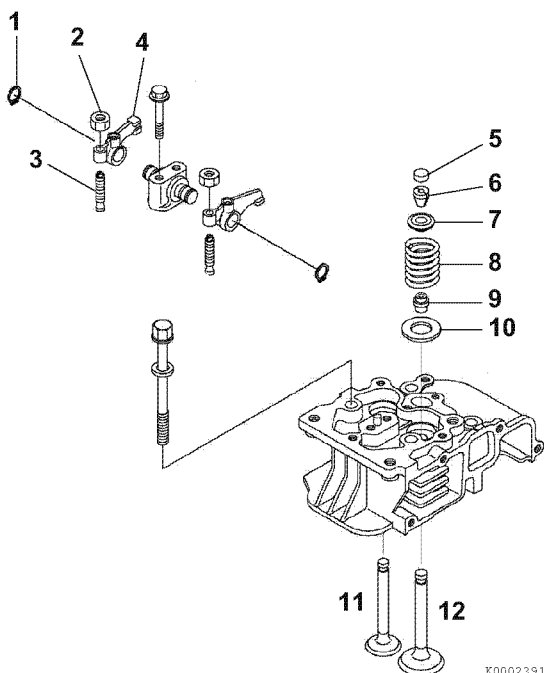

Figure 6-4
2. Remove the valve stem caps (5, **Figure 6-4**).
4. Remove the valve keepers (6, **Figure 6-4**).
5. Slowly release the tension on the valve spring (8, **Figure 6-4**).
6. Remove the spring retainer (7, **Figure 6-4**), valve spring (8, **Figure 6-4**) and washer (10, **Figure 6-4**).
8. Remove the intake (11, **Figure 6-4**) and exhaust (12, **Figure 6-4**) valves from the cylinder head.
9. Remove the valve stem seals (9, **Figure 6-4**).
10. Remove the snap ring (1, **Figure 6-4**) from each end of the rocker arm shaft. Remove the rocker arms (4, **Figure 6-4**). Identify the rocker arms so they can be installed in their original locations.
11. If necessary, remove the locknut (2, **Figure 6-4**) and adjusting screw (3, **Figure 6-4**) from each rocker arm.